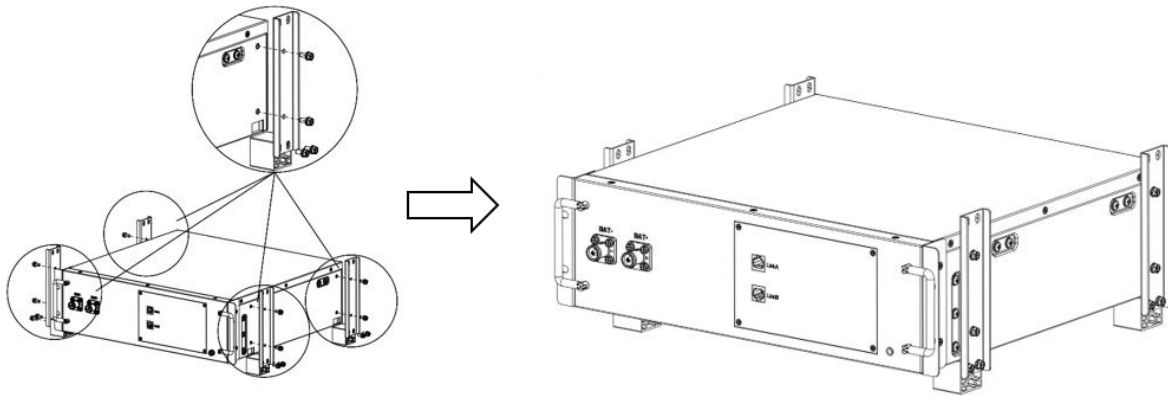

Figure 3.2 Assemble the basic bracket to the battery box
(1) Take the above assembled basic bracket and fix it to the side of the box with 2 M5*12 screws.
(2) Assemble 4 sets of basic brackets to one box, which will consume a total of 8 screws for one box (Fig.3.2, 3.3).